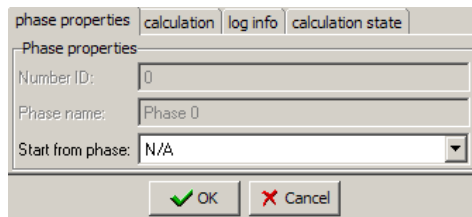

Figure 1.12 The *General* window
- Double click the *General* option in the *Phase 0* tree to open the *General* window (see Figure 1.12). Change the *Calculation type* in the *calculation* tab sheet to *K0 procedure* and click the *OK* button to confirm the input. Using the K_0 -procedure, initial stresses will be calculated directly from the soil weight and water pressure. Horizontal effective stresses are based on the K_0 -values as specified in the corresponding material data sets (see *Defining materials*).